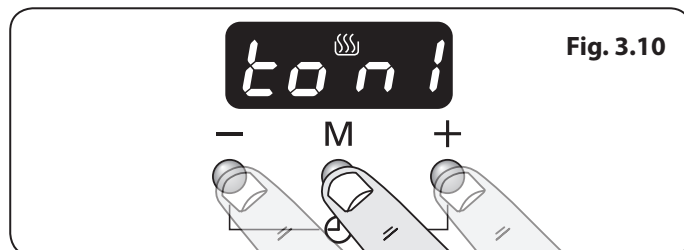

Fig. 3.10
- Press the the [+] and [-] buttons simultaneously, then the mode [M] button. The display will show 'ton1,2 or 3' (**Fig. 3.10**).